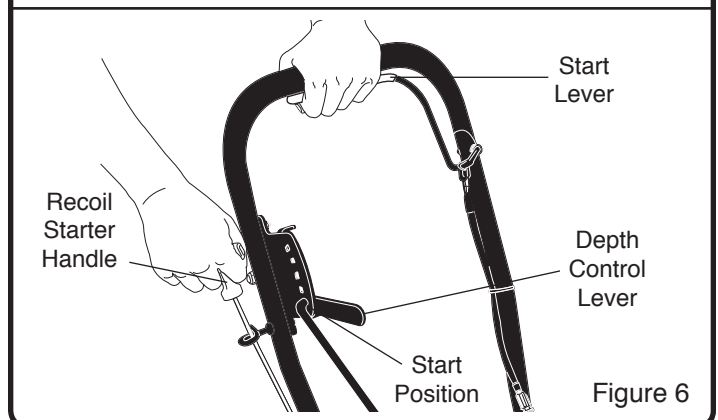

Figure 6
2. Move the Depth Control Lever to the Start Position. (See Figure 6)
4. Firmly grip the edger handle with your left hand, pulling the Start Lever against the handle. (See Figure 6)
5. Firmly grip the Recoil Starter Handle with your right hand. (See Figure 6)
Release the start lever (See Figure 6). This will ground out the engine through the flameout wire, causing the engine to stop.